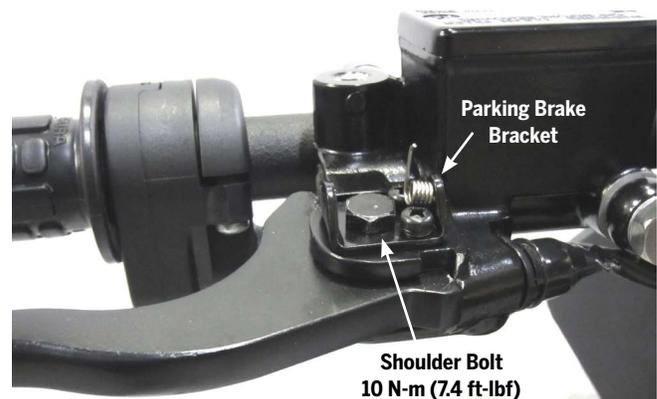

Figure 91: Parking Brake Cap Removed
4. Using a 10 mm socket wrench, unscrew and remove the shoulder bolt (**Figure 91**).